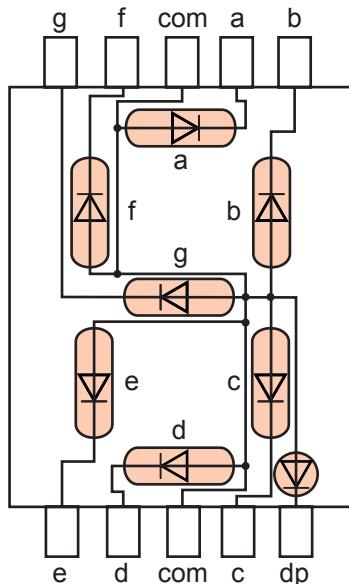

Figure 7.46 Pin configuration and internal circuitry of a common-anode 7-segment display
Figure 7.46 shows the pin configuration and internal circuitry of a common-anode 7-segment display. Notice that it is made up of eight LEDs and that the anodes of these LEDs are connected together (thus the name 'common anode').
- the two common-anode pins (labelled as 'com' in Figure 7.46) to a suitable positive voltage (e.g., 5 V);